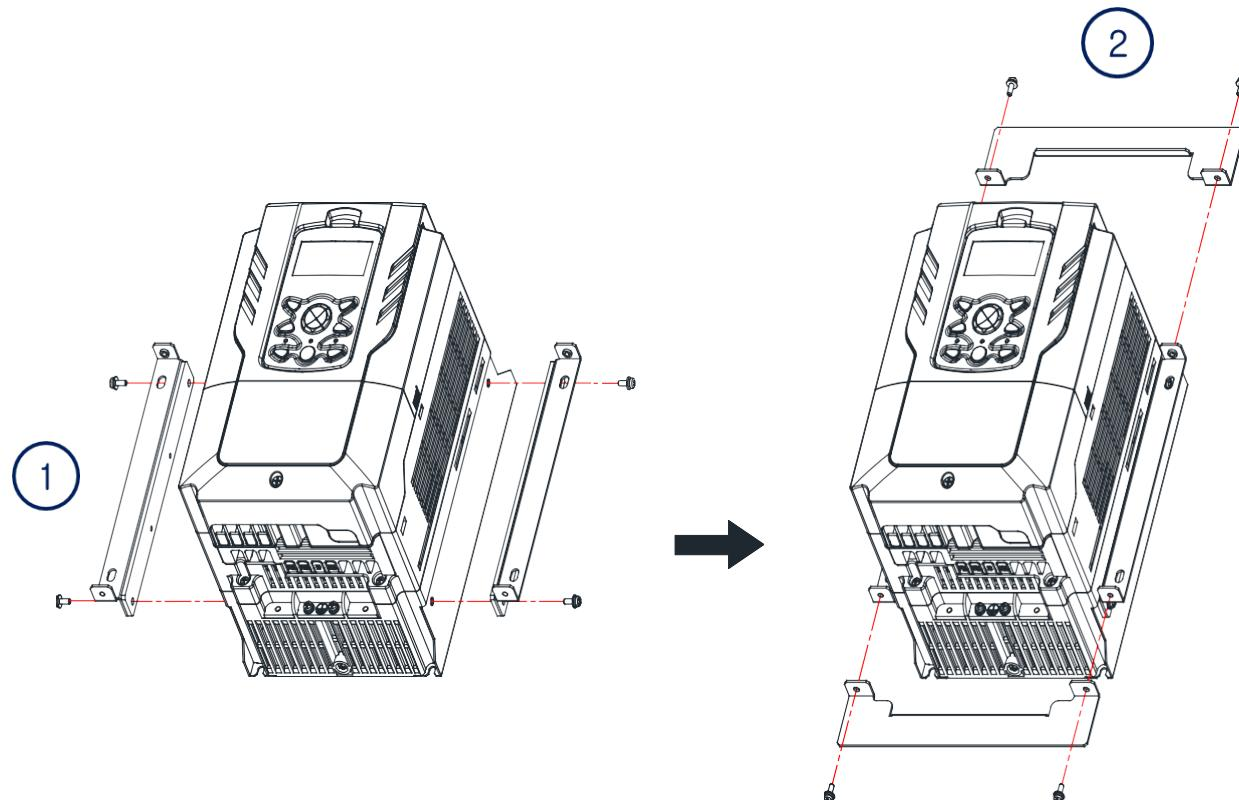

Figure 1. Installation
- ① Insert the Flange Option to fit on the sides of the base, fastening the side pieces as shown in Figure 1.